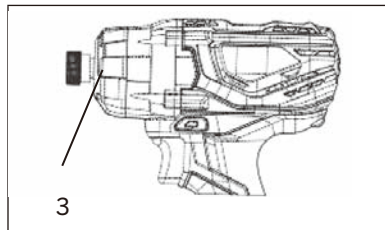

FIG. 7
The LED work light (3) will automatically turn ON when the trigger switch is squeezed (Fig. 7). It will automatically turn OFF when the trigger switch is released.